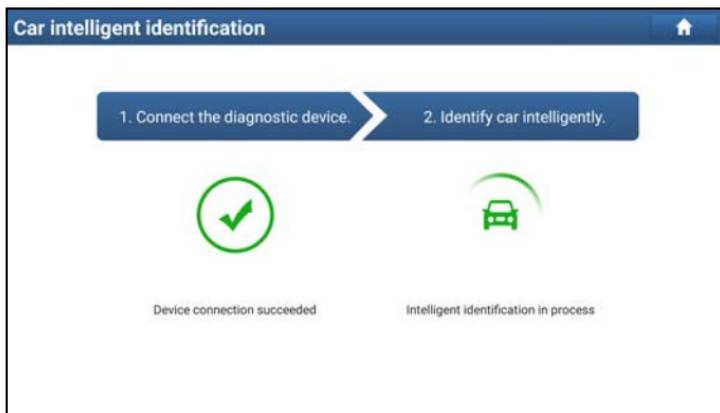

Fig. 5-1
1. Tap “Diagnose” on the Diagnostics function module and tap “AutoDetect” to enter Fig. 5-1.